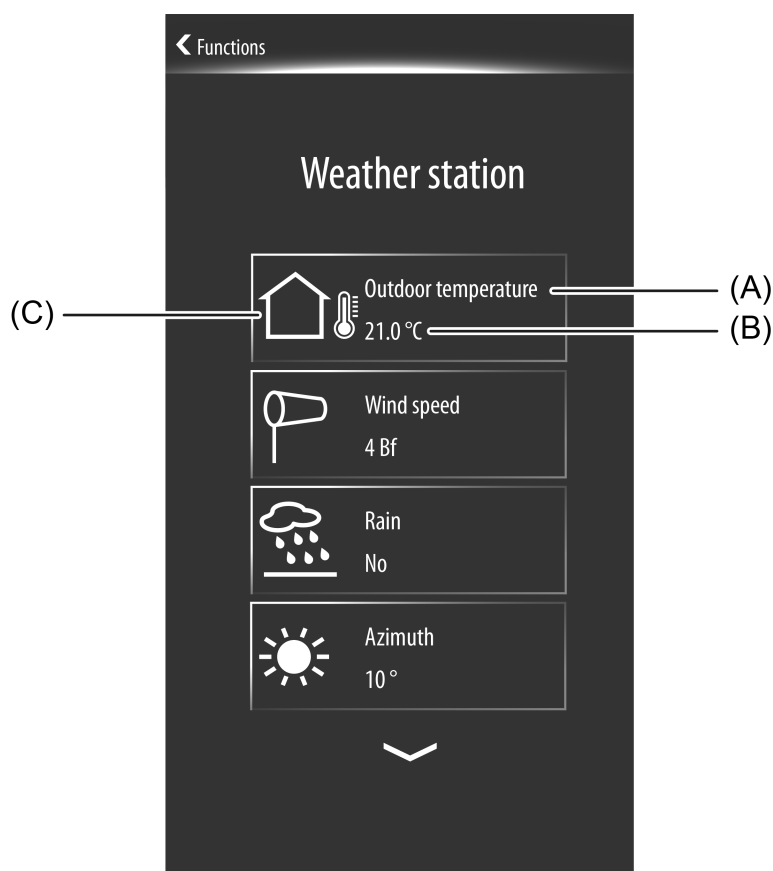

Figure 57: Example of a weather station display page
Each measured value on the display page of the weather station has its own display element (figure 57). The display elements normally contain a measured value symbol (A), a name of the measured value (B) in textual form and the measured value itself (C). The measured value symbols are permanently assigned to the measured values. Only the 4 optionally available external values have no measured value symbols. The text names are entered in the ETS in which each of the measured values is identified individually and can be adapted to the local conditions.